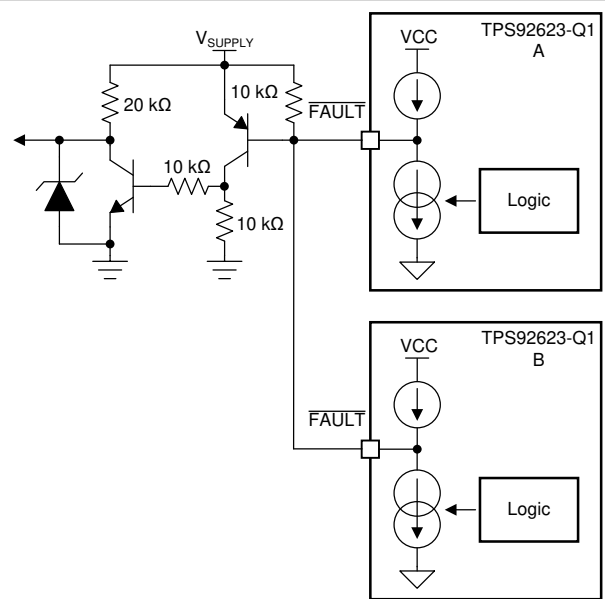

Figure 7-7. FAULT Bus for One-Fails-Others-On Application
is detected by upper side TPS92623-Q1 (A) because the $\overline{\text{FAULT}}$ pins are connected of two devices. The upper side TPS92623-Q1 (A) turns off all output current for each channel as a result. If the $\overline{\text{FAULT}}$ pins of each TPS92623-Q1 are all connected to drive the base of an external PNP transistor as illustrated in Figure 7-7, the one-fails-all-fail function is disabled and only the faulty channel device is turned off.